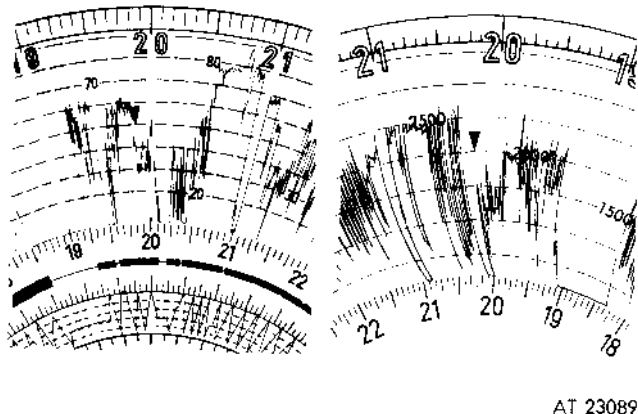

Figure 2-286. Gradient driving (incorrect).
(5) *Driving up and down gradients (fig. 2-286 and 2-287).* The speed chart on its own (fig. 2-286) does not lead to any conclusion as to which gear was engaged. The rpm chart shows that the engine was overloaded at low rpm. Damage to the engine is often the result of such handling.